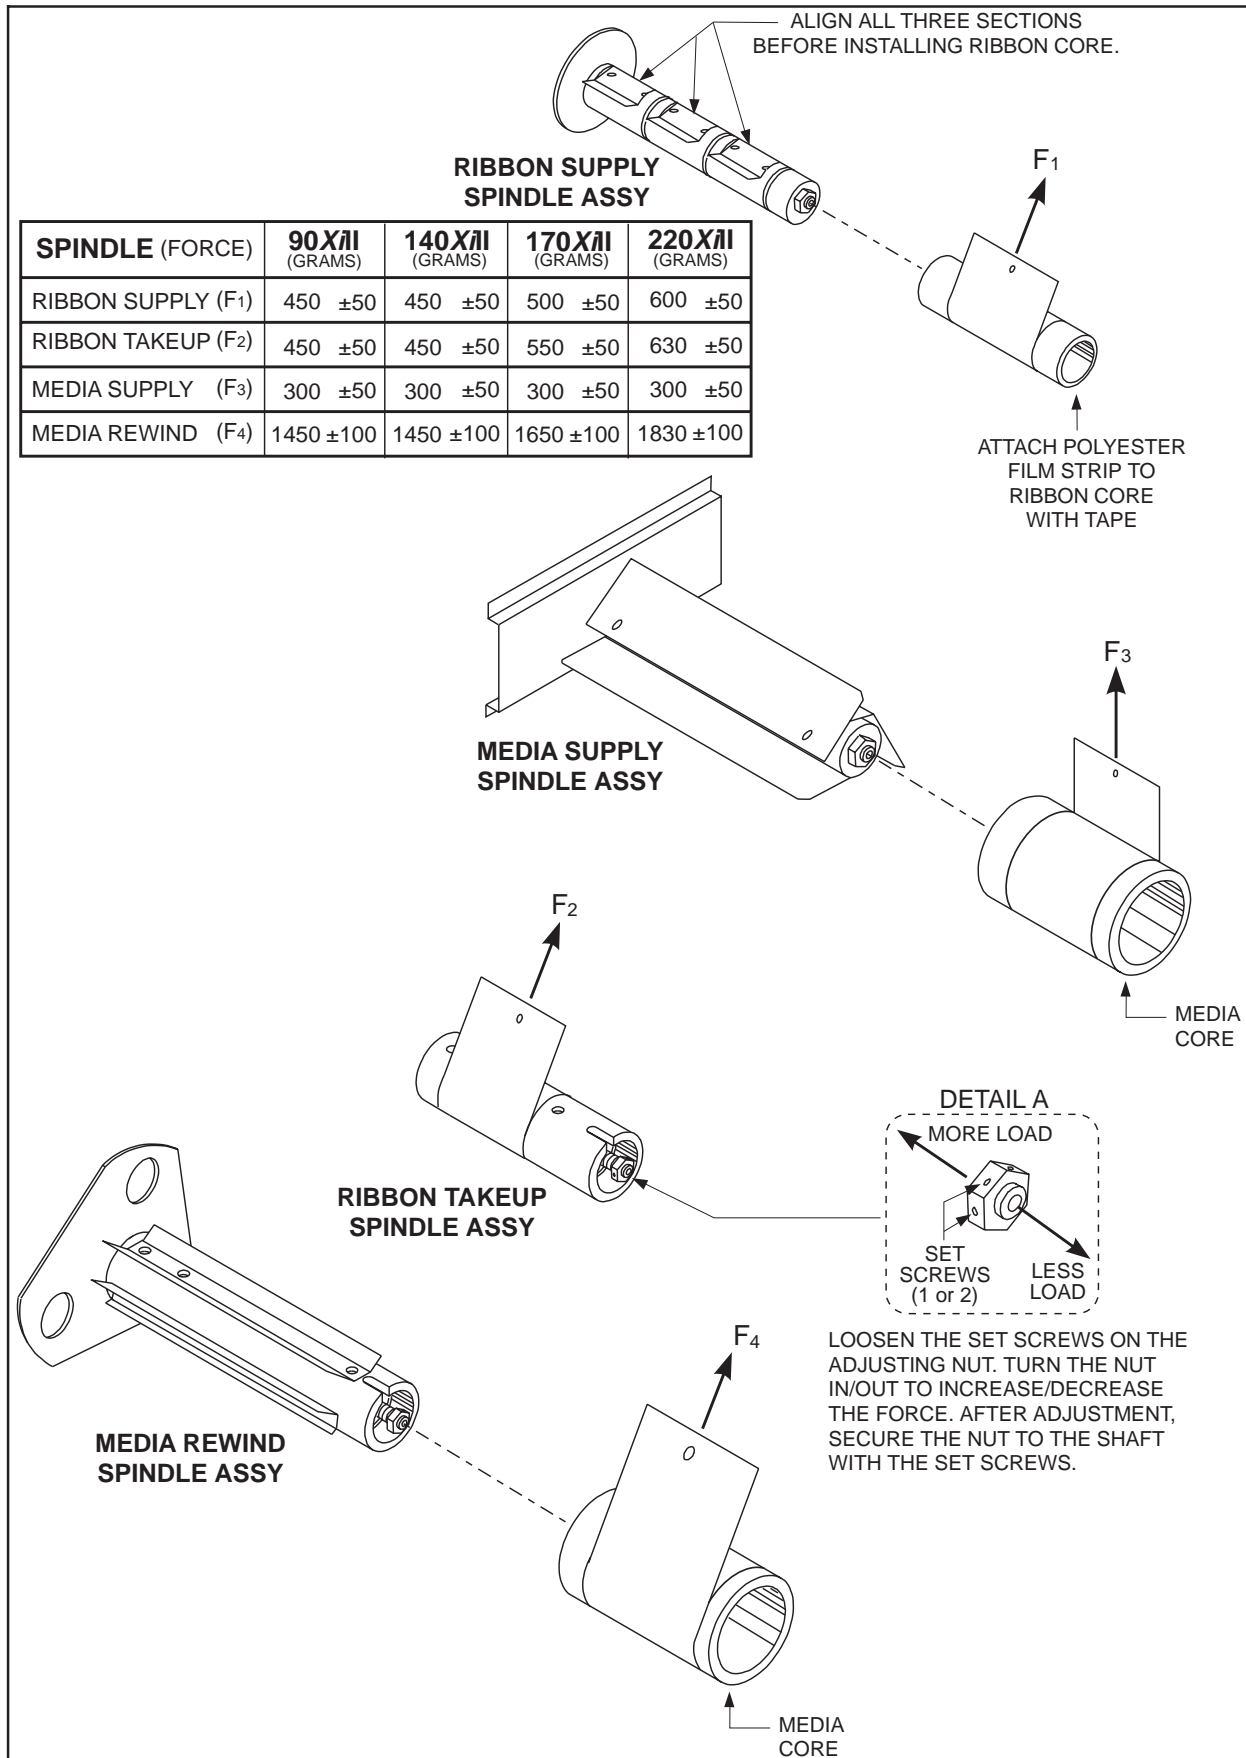

Figure 5.12 Spindle Tension Adjustments
The procedure for measuring spindle tension is similar for all four spindles. Refer to the Spindle Tension Adjustment Diagram in Figure 5.12 for any specific requirements.
1. Use adhesive tape to attach a 2" wide strip of polyester film (part # 01776) to the Spindle Shaft (or Core where required) as illustrated in Figure 5.12. Wind the polyester film around the Spindle (or Core) about 5 times in the direction indicated.
3. Compare the spring scale reading with the force values provided in Figure 5.12. Perform the Spindle Adjustment only if the reading is out of spec.
Refer to the Spindle Tension Adjustment Diagram in Figure 5.12 and adjust the Spindle Tension as follows:
3. Measure the spindle tension as performed above. Compare the tension reading on the spring scale with the appropriate force value provided in Figure 5.12. Repeat the adjustment procedure until the correct tension is obtained.